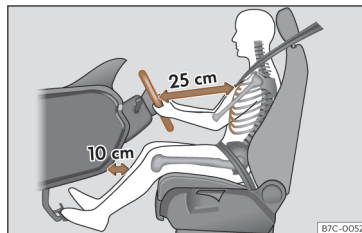

Fig. 16 The correct distance between the driver and the steering wheel must be at least 25 cm (10 inches).
- Adjust the steering wheel so that it is at a distance of at least 25 cm (10 inches) from the sternum >>> **Fig. 16** and can hold it with both hands on the sides, on the outside, with the arms slightly flexed.